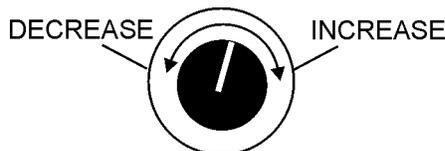

Figure 49. Voltage Adjust Control Knob
- If the voltage is not within the specified tolerance use the voltage adjustment control knob (Figure 49) to increase or decrease the desired voltage.